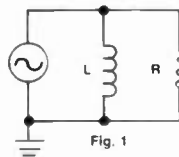

Fig. 1
3. The parallel RL circuit in figure 1 is represented by which vector (phasor) diagram below?